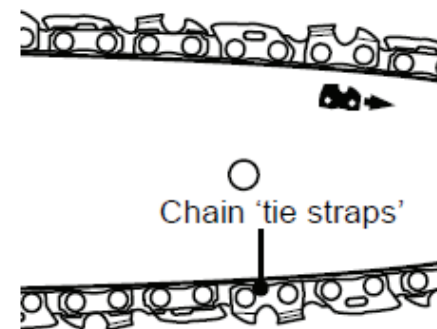

Fig. 11
1. Place the product on a suitable flat surface with the side cover (12) facing upwards.
2. Check the chain tension using one hand to lift the saw chain (14) against the weight of the product. The correct chain tension is achieved when the saw chain can be lifted by approximately 2 - 4 mm from the guide bar (13) in the centre (Fig.11, 12).